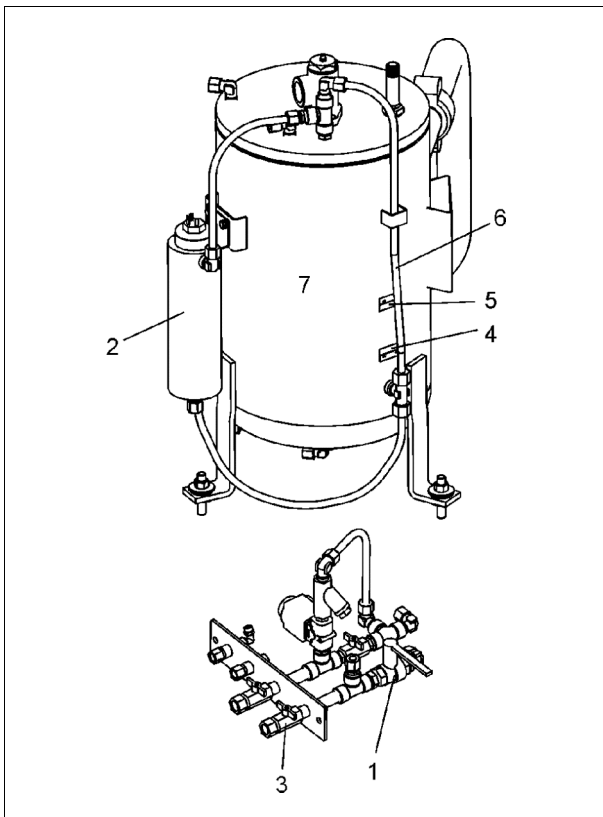
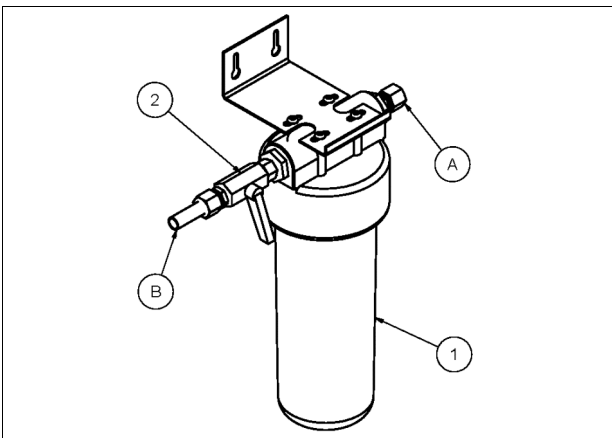
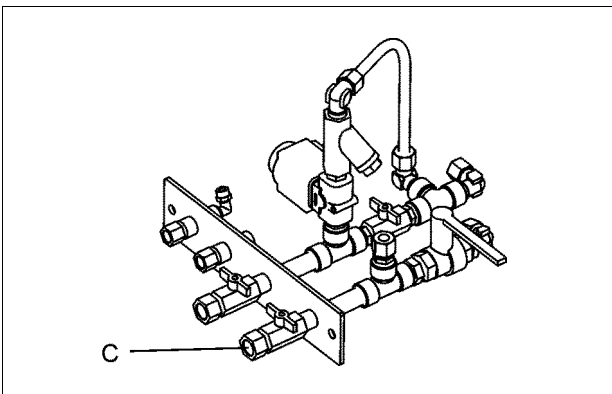

Fig. 12
Fig. 13
Fig. 14
- Open manual valve – water in (-1- Fig. 12). Water flows through the inlet (-3- Fig. 12) into the pressure tank (-7- Fig. 12).
- Fill up to the fill level marking "Above" (-5- Fig. 12).
- Close manual valve – water in (-1- Fig. 12). Start system and monitor the water level.
- Once the fill level marking "Below" (-4- Fig. 12) has been reached, turn off system via the emergency off.
- Open manual valve – water in (-1- Fig. 12).
- Fill with water up to the fill level marking "Above" (-5- Fig. 12).
- Apply water connections for the inflow (-A - Fig. 13) and the connection between the outflow (-B- Fig. 13) with the water inflow from the compressor (-C- Fig. 14)
- Open stopcock for filling process (-2- Fig. 13). If necessary open the vent on the filter head of the demineralisation unit. The water level in the filter rises.
- Open manually operated valve – water on (-1- Fig. 12). The water flows via the inflow (-C- Fig. 14) into the pressure reservoir (-7- Fig. 12).
- Fill water up to the fill level marking "Above" (-5- Fig. 12). This process may take up to 90 minutes.
- Close manually operated valve – water on (-1- Fig. 12); start the system and observe the water level.
- When the fill level marking "Below" (-4- Fig. 12) is reached, switch system off via the emergency stop.
- Open manually operated valve – water on (-1- Fig. 12).
- Fill water up to the fill level marking "Above" (-5- Fig. 12) again.
- After filling, remove the connection between outflow (-B- Fig. 13) and the water inflow (-C- Fig. 14) on the compressor.
- Check the water level on the water level indicator (-6- Fig. 12) and add water if necessary (see Chapter 7.4 Water supply).
- Check the water level in the pressure reservoir (see also chapter 7.4) (Fig. 12)